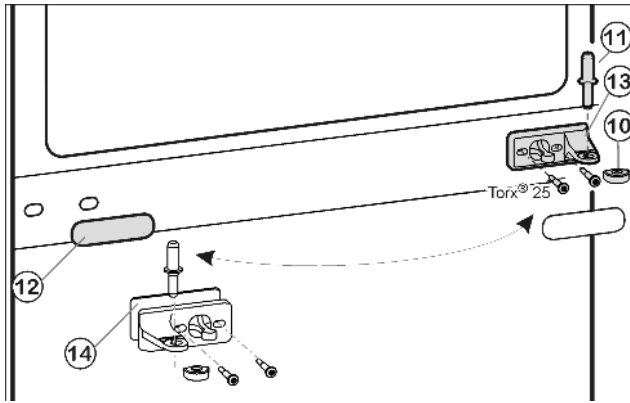
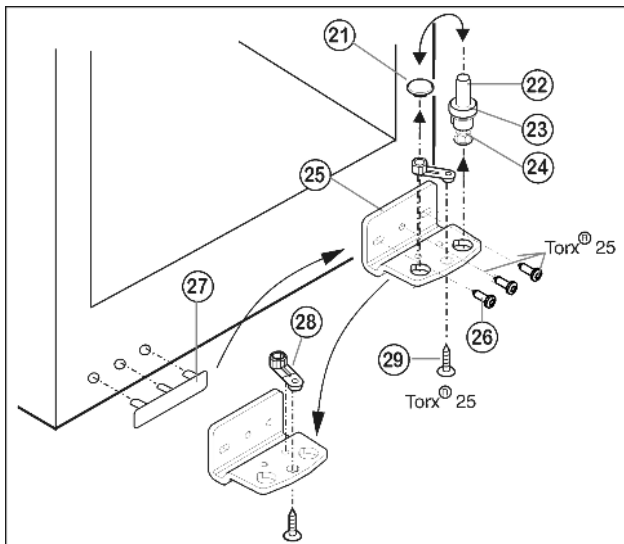

Fig. 8
Fig. 9
- ▶ Draw the middle bearing pin Fig. 8 (11) out of the turn hinge and lower door.
- ▶ Remove the plastic cap Fig. 8 (10).
- ▶ Unscrew the middle turn hinge (2x Torx® 25). Fig. 8 (13)
- ▶ Carefully detach the cover panel Fig. 8 (12).
- ▶ Turn the middle turn hinge Fig. 8 (13) with the washer Fig. 8 (14) through 180° and screw it firmly into place on the new hinge side (**with 4 Nm**).
- ▶ Turn the cover panel Fig. 8 (12) through 180° and snap it into place again on the new handle side.
- ▶ Lift out the bearing pin Fig. 9 (22) together with washer Fig. 9 (23) and foot Fig. 9 (24).
- ▶ Lift off the stopper Fig. 9 (21).
- ▶ Unscrew Fig. 9 (26) the turn hinge Fig. 9 (25).
- ▶ Unscrew Fig. 9 (29) the bearing element Fig. 9 (28), transfer it to the opposite location hole of the turn hinge and screw it firmly into place.
- ▶ Carefully lift off the cover on the handle side Fig. 9 (27) and transfer it to the opposite side.
- ▶ Screw the turn hinge Fig. 9 (25) firmly into place on the new hinge side, possibly using a cordless screwdriver (**with 4 Nm**).
- ▶ Re-insert the stopper Fig. 9 (21) into the other hole.
- ▶ Re-insert the bearing pin Fig. 9 (22) together with washer and foot. In so doing, pay attention that the locating lug points backwards
- ▶ Place the lower door from above onto the lower bearing pin Fig. 9 (22).
- ▶ Place the plastic cap Fig. 8 (10) back onto the middle turn hinge Fig. 8 (13).
- ▶ Place the middle bearing pin Fig. 8 (11) in the lower door, on the new hinge side, through the middle turn hinge Fig. 8 (13).
- ▶ Place the upper door on the middle bearing pin Fig. 8 (11).
- ▶ If necessary, align the doors to the appliance housing by way of the two oblong holes in the bottom turn hinge Fig. 9 (25) and middle turn hinge Fig. 8 (13). To do so, unscrew the middle screw in the bottom turn hinge Fig. 9 (25).